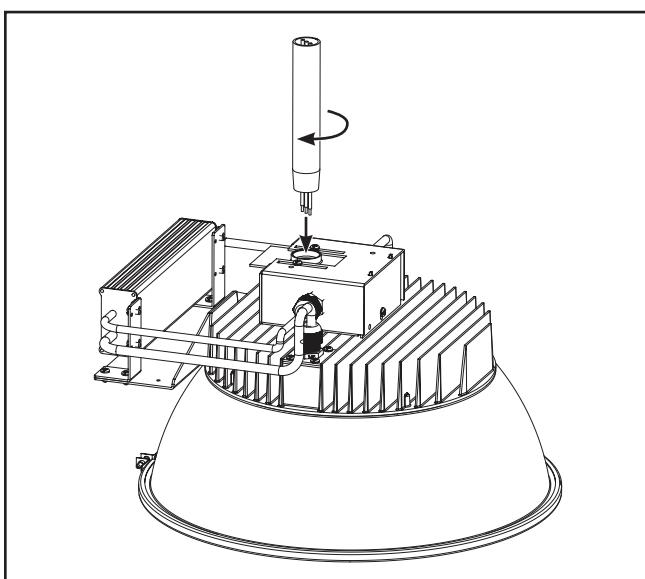

Figure 7.
3. Feed incoming power wires into junction box through threaded hole on adjustable mounting plate and fully thread pendant stem into thread hole on adjustable mounting plate. (Figure 7)